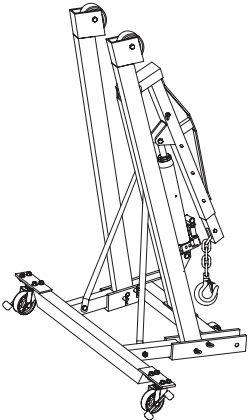

Fig. 2 - Engine Crane Storage Position
- Instruction on how to transform the crane into storage position: (see Fig. 2)**
Refer to Fig. 2 on page 3 for detail storage instruction.